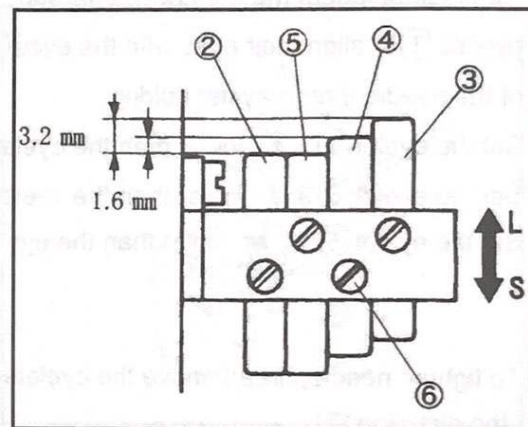

Fig.37
- (2) 第一片②要跟右邊第四針的線平齊。(Fig.37)
- (3) 設定第四片③離第一片②的高度為 3.2mm。
- (4) 設定第三片④離第一片②的高度為 1.6mm。
- (5) 設定第二片⑤離第一片②的高度為 0.8mm。
- (6) 對準後鎖緊螺絲⑥。
- (2) Set the top of pin ② even with the needle thread as the fourth right needle. (Fig.37)
- (3) Set the pin ③ 3.2 mm higher than the pin ②.
- (4) Set the pin ④ 1.6 mm higher than the pin ②.
- (5) Set the pin ⑤ even with or 0.8 mm higher than the pin ②.
- (6) Tighten the screws ⑥ securely.